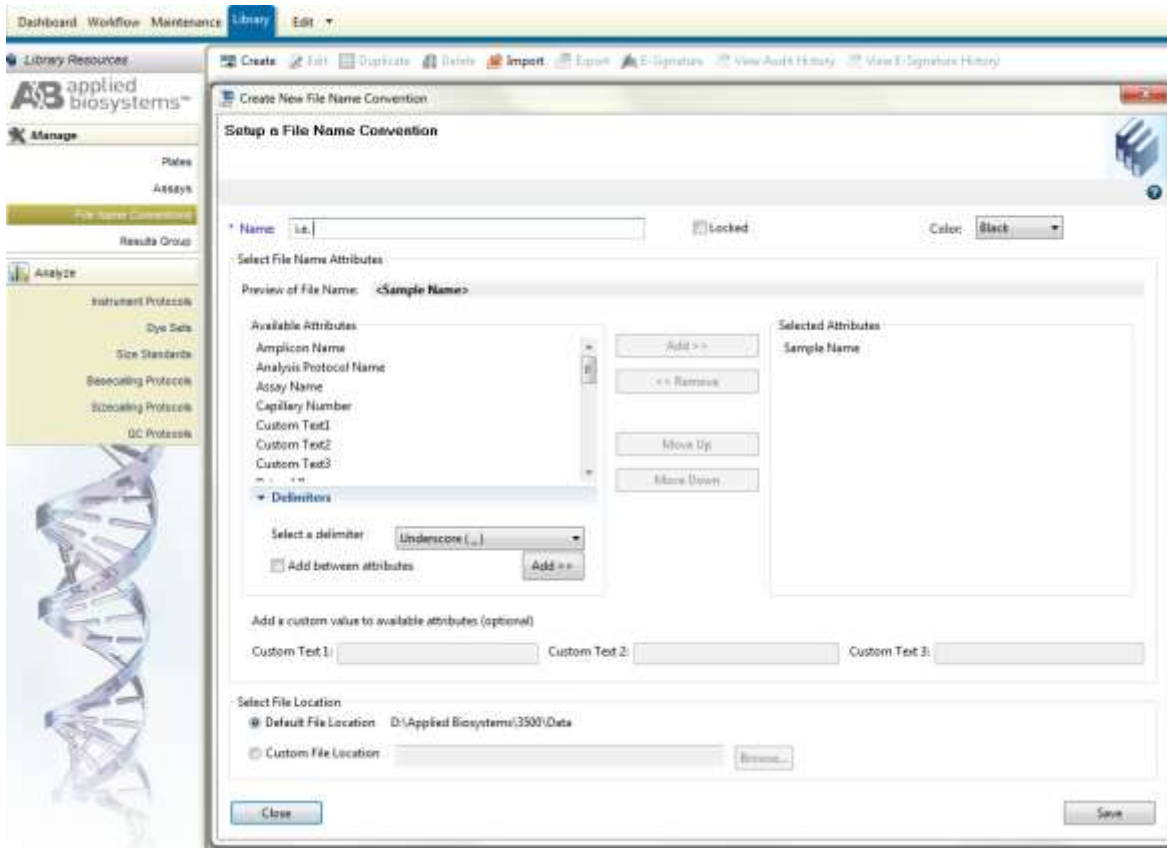

Figure 9. Screenshot for the “Create New File Name Convention” window on Applied Biosystems 3500 Data Collection software.
- c) Select “*Create*” (Figure 9)